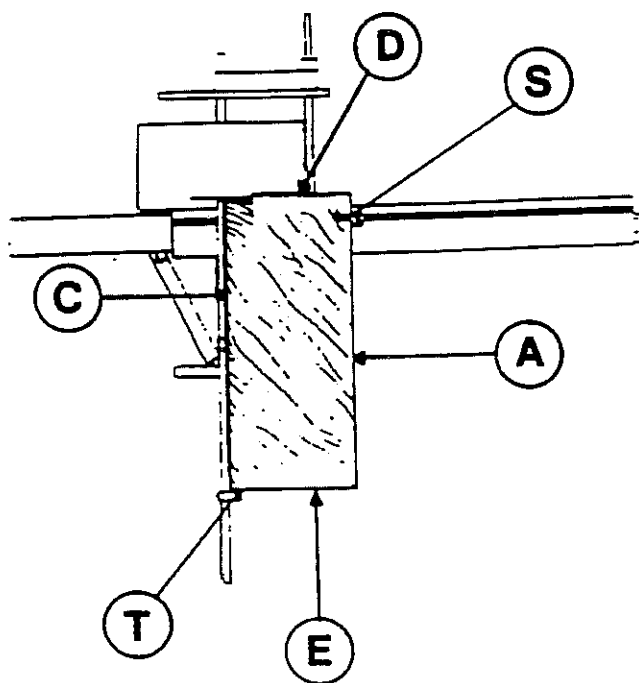

Fig. 38
- Turn panel 90° again: rest side (C fig.38) against aluminium fence and side (B) against stop (T) set according to cutting measure, then carry out cut (D).